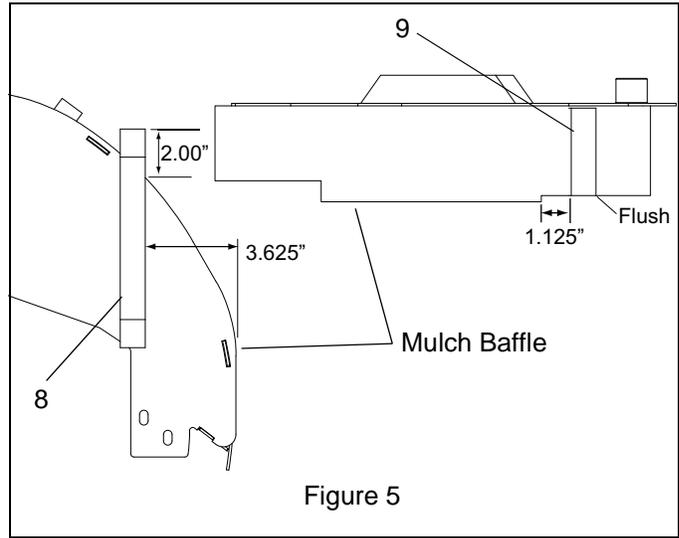

Figure 5
- Thoroughly clean the mulch baffle surfaces before attaching foam blocks. Peel off the paper backing and attach the foam blocks (item 8 and item 9) to the mulch baffle. See Figure 5.